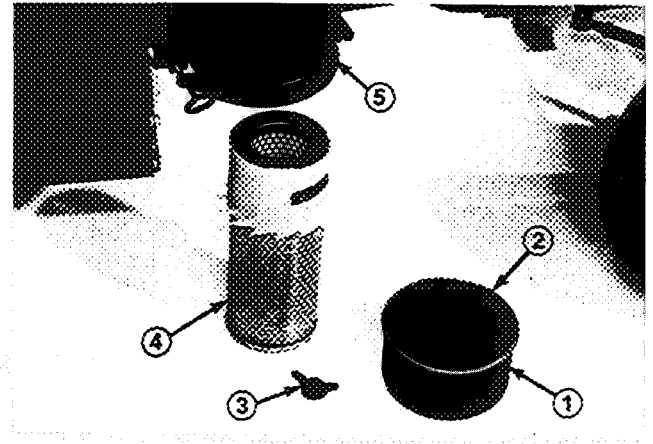

Figure 27
2. Remove wing nut w/gasket and slide filter element out of air cleaner body (Fig. 27)